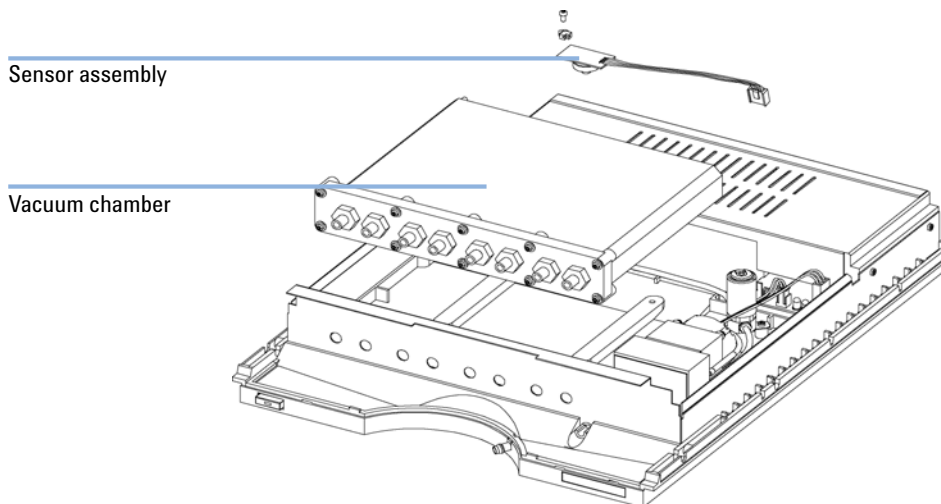

Figure 16 Exchanging the Vacuum Chamber
- 15** Reconnect all inlet and outlet tubes to the vacuum chamber, see Figure 16 on page 72.